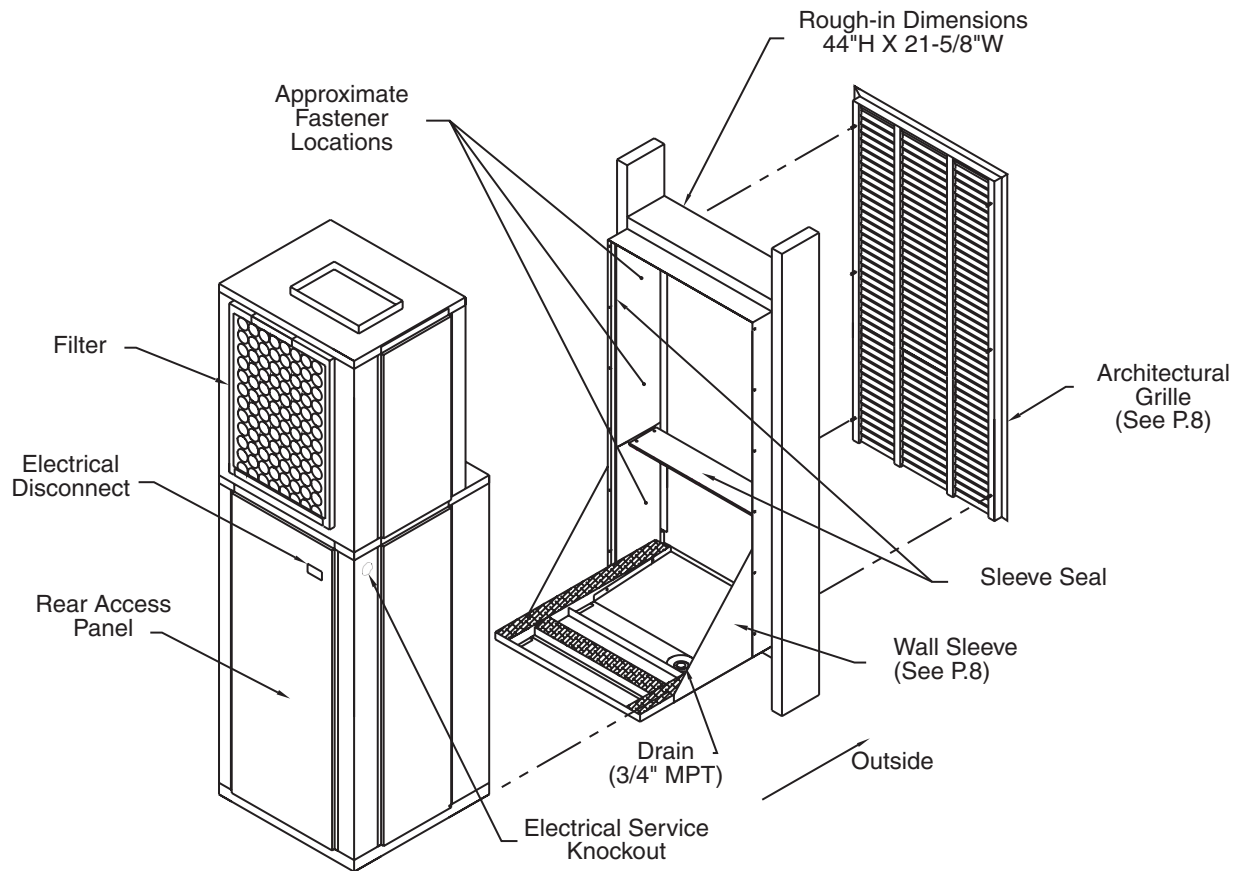

Figure 1 - General Assembly
5. **Wall Sleeve** – (See Figures 1, 4 and 5) Rear or side install wall sleeves are provided for installation during rough-in and, when ready, the **SPXR-A** unit is simply slid into the sleeve and the ductwork and electrical connected. The sleeve is a weight-bearing sleeve that supports the entire weight of the **SPXR-A** unit and provides a weather tight seal against wind and water infiltration. A 3/4" male NPT fitting is provided in the bottom of the sleeve for field connection to a condensate riser. Four wall sleeve depths are available to accommodate wall thickness from 5" to 20". Each sleeve includes a factory installed "weather guard" to cover the sleeve opening during construction.